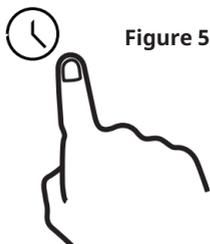

Figure 5
- Press the timer button (see figure 5) and use the up and down buttons to set the countdown time.